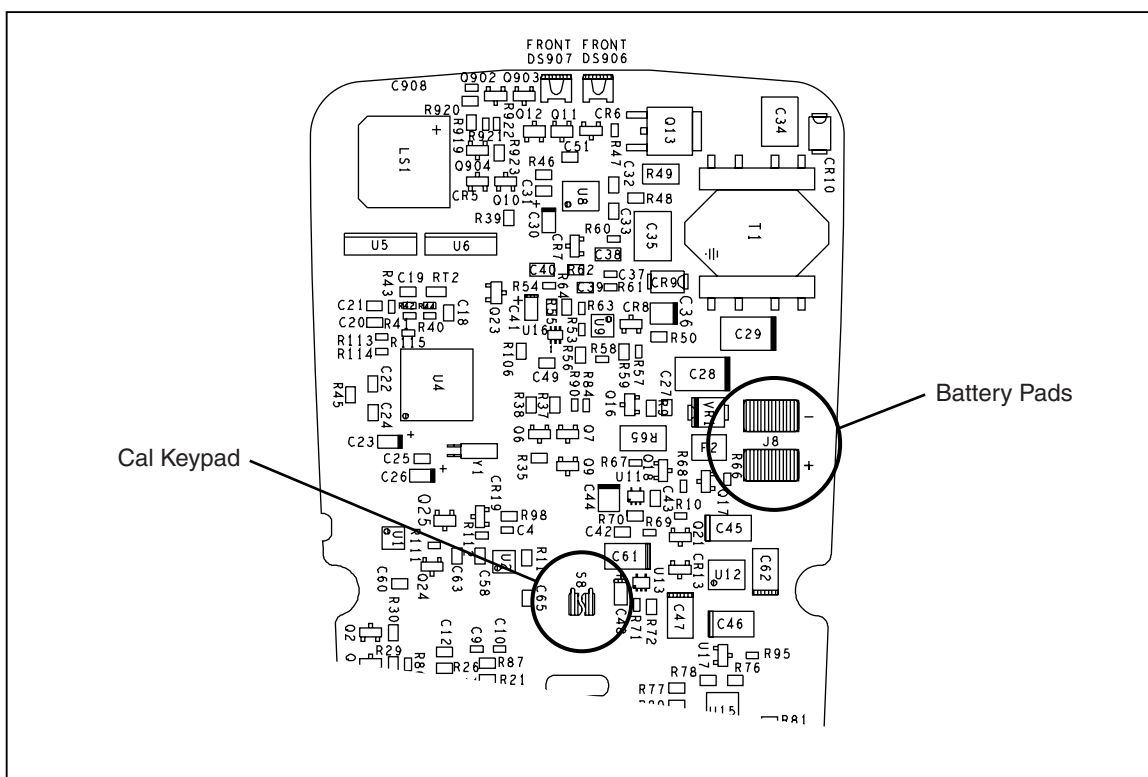

Figure 6. Restoring the Default Password
2. Apply 6.0 V across the battery contact pads (J8) + and – on the PCA. See Figure 6.
3. Short across the Cal keypad (S8) on the back of the PCA. See Figure 6.